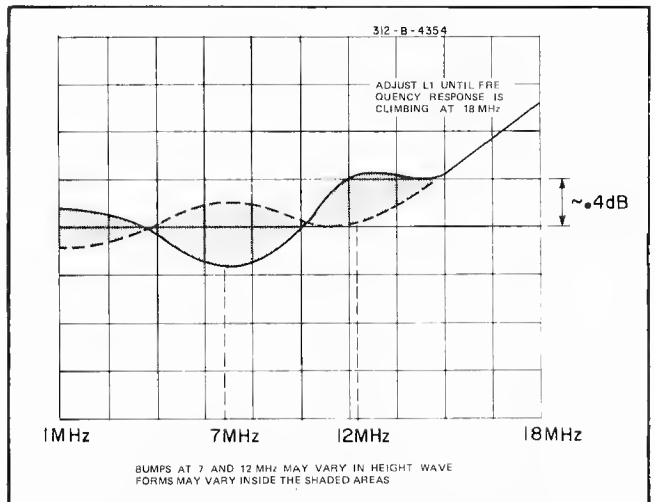

Figure 5-14. A33L1 and A33L3 Adjustments.
4. Adjust L1 and L3 for the display shown in Figure 5-14. Make sure that the frequency response is still increasing at 18 MHz. Try to minimize the bumps at 7 and 12 MHz.
If the response shown in Figures 5-14 or 5-15 cannot be achieved, it will be necessary to adjust C14, C3 and C7. Preset the controls as described in Steps 1, 2 and 3. Adjust C14, C3 and C7 for the type of waveform shown in Figure 5-14. Then proceed with Step 4.